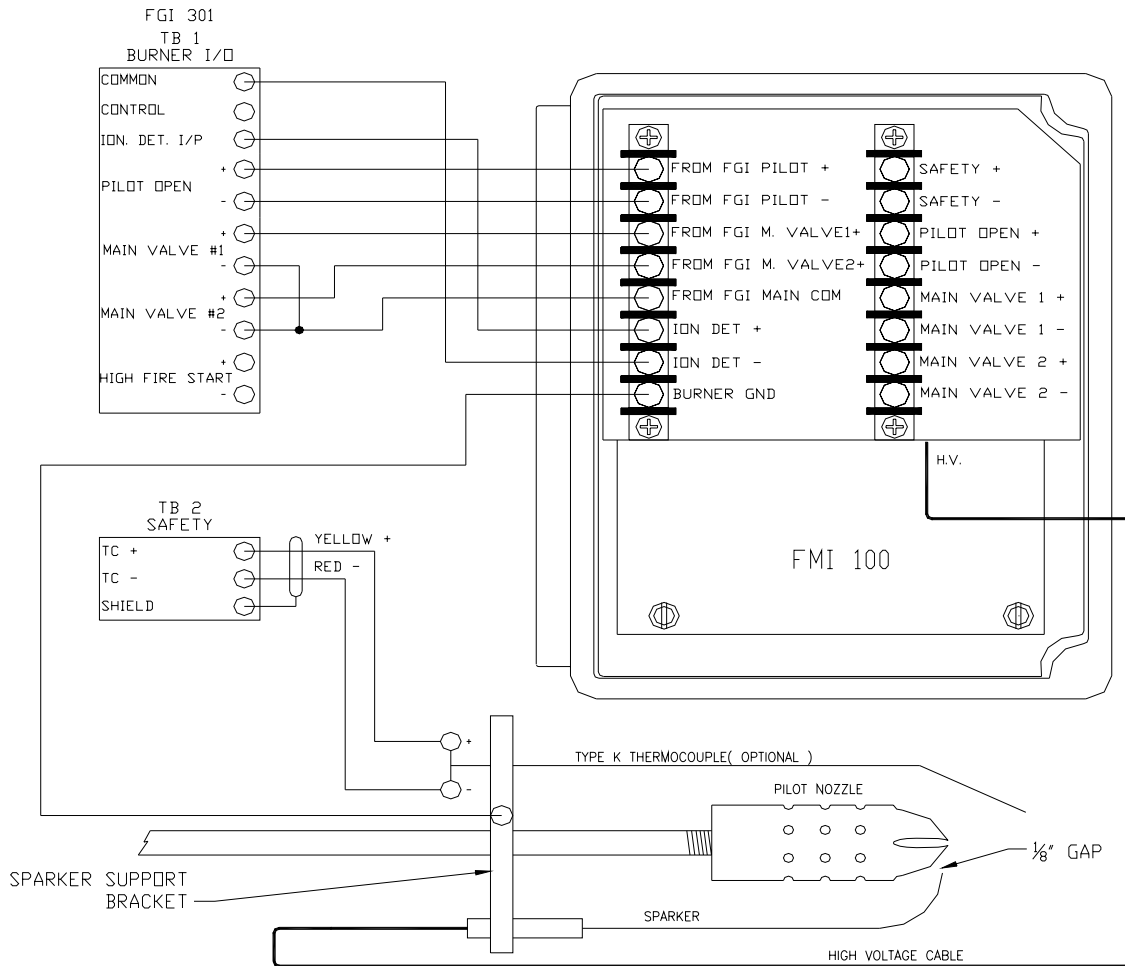

Figure 3
Terminal 5 –12 Outputs for valve control and must be wired through the appropriate terminal of the FMI 100, see Figure 3. Each output fused at 2.5A
Seven conductors (#18 AWG wire or larger) must be routed from the FGI 301 Controller to the FMI 100. These conductors should be labelled or colour coded to ensure correct installation and re-attachment if necessary. See Figure 3, above, for FMI 100 wiring diagram and Figure 1 for FGI 301 Terminal Block (TB) layout.